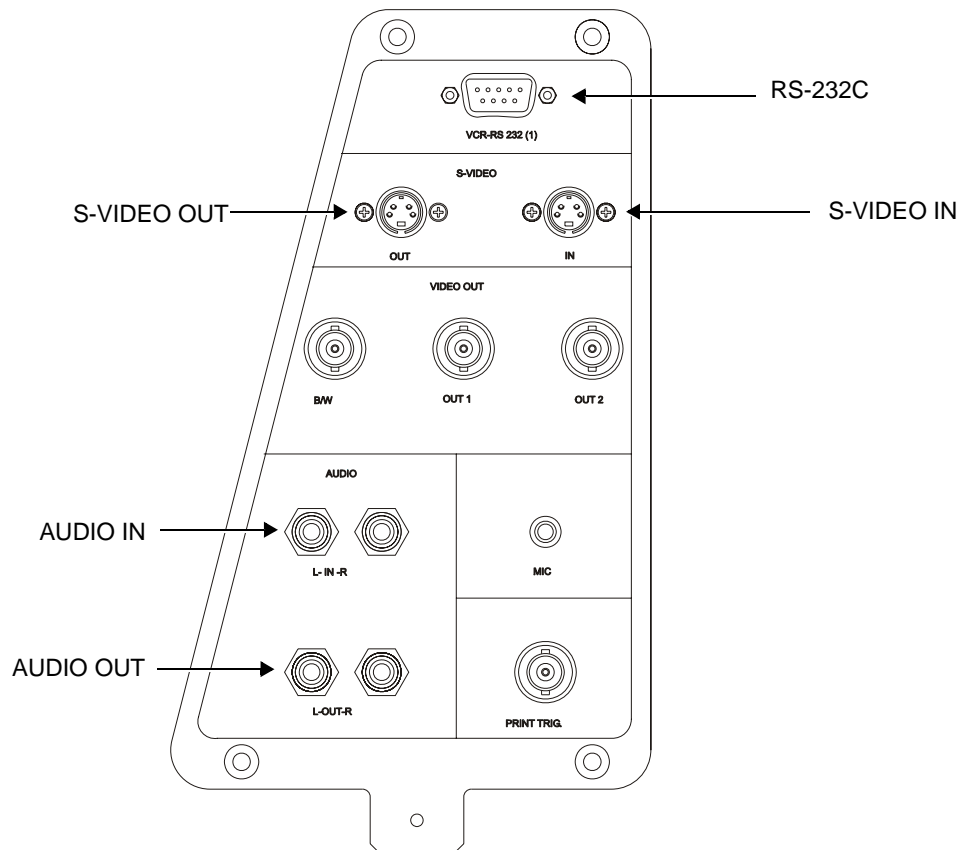

Figure 8-115 Vivid 3N Left Rear Panel Connectors
- 12.) Connect the RS-232C cable, the Audio and S-Video IN and OUT cables, and the Power cable to the appropriate sockets on the Vivid 3N rear connectors panel - see Figure 8-115 "Vivid 3N Left Rear Panel Connectors" on page 8-132.
- 2.) Disconnect the RS-232C cable, the Audio and S-Video IN and OUT cables, and the Power cable from the Vivid 3N rear connectors panel - see Figure 8-115 "Vivid 3N Left Rear Panel Connectors" on page 8-132.